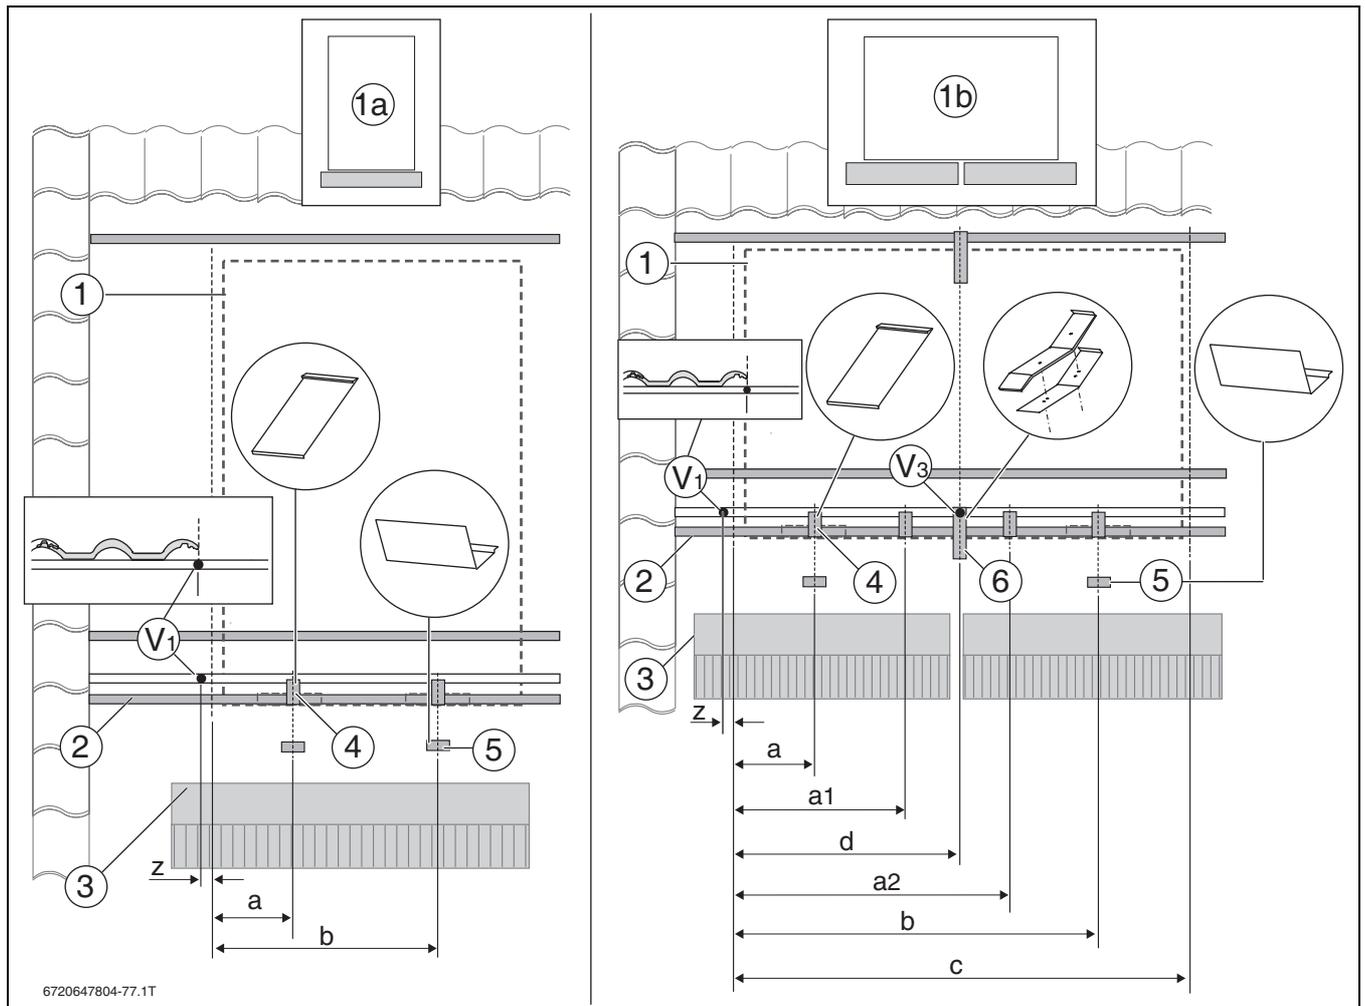

Fig. 42 Installation dimensions for single collectors
- **Single collectors** dimensions a, b (→ Fig. 42 and table 23, page 33)
- **Single collectors, landscape** dimensions a, a1, a2, b, c, d (→ Fig. 42 and table 23, page 33)